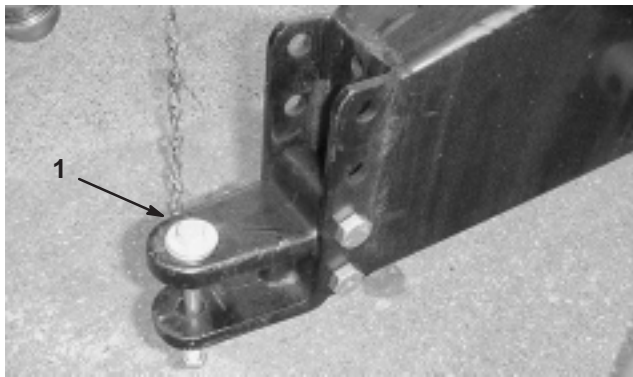

Figure 2
- Remove bolts and locknuts securing hitch clevis (Fig. 2) to vac frame.